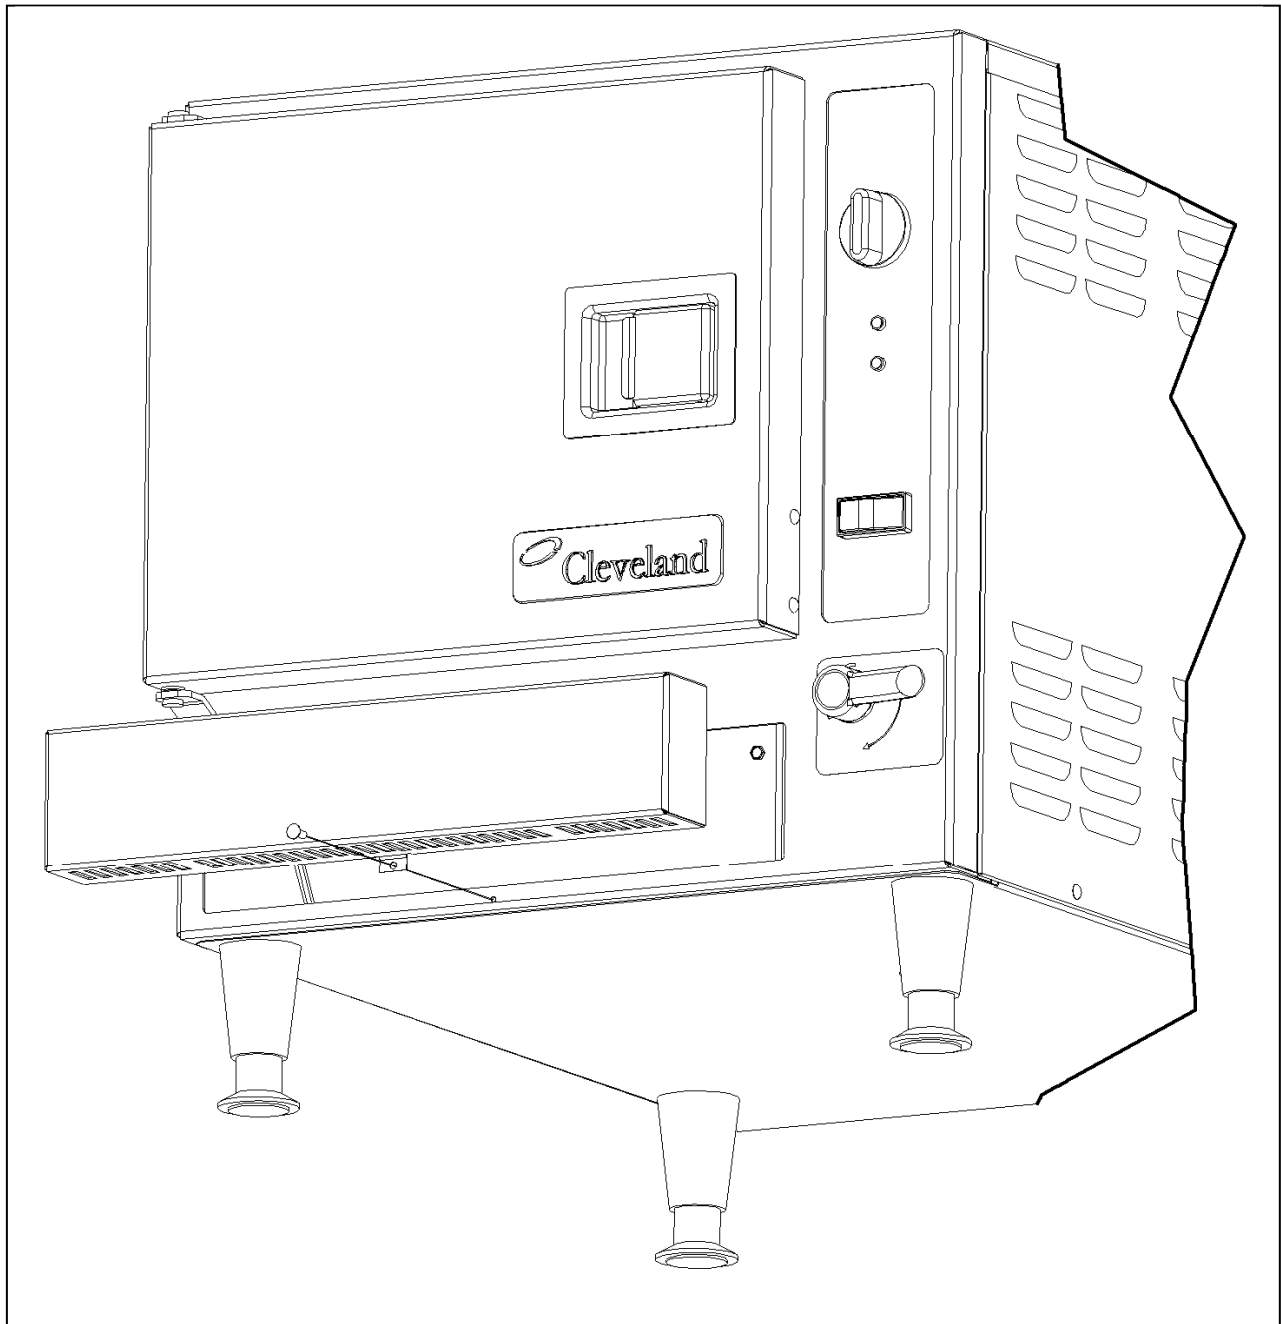

Figure 5-1
- 1. Place the Front Burner Cover in place as shown. See Figure 5-1.**